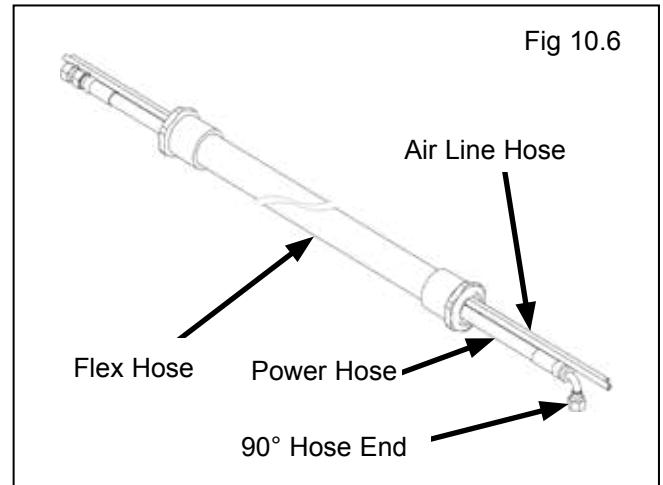

Fig 10.6
5. Route both the Power Unit Hydraulic Hose and TWO (2) lengths of Air Line through the Flex Hose. (See Fig. 10.6)